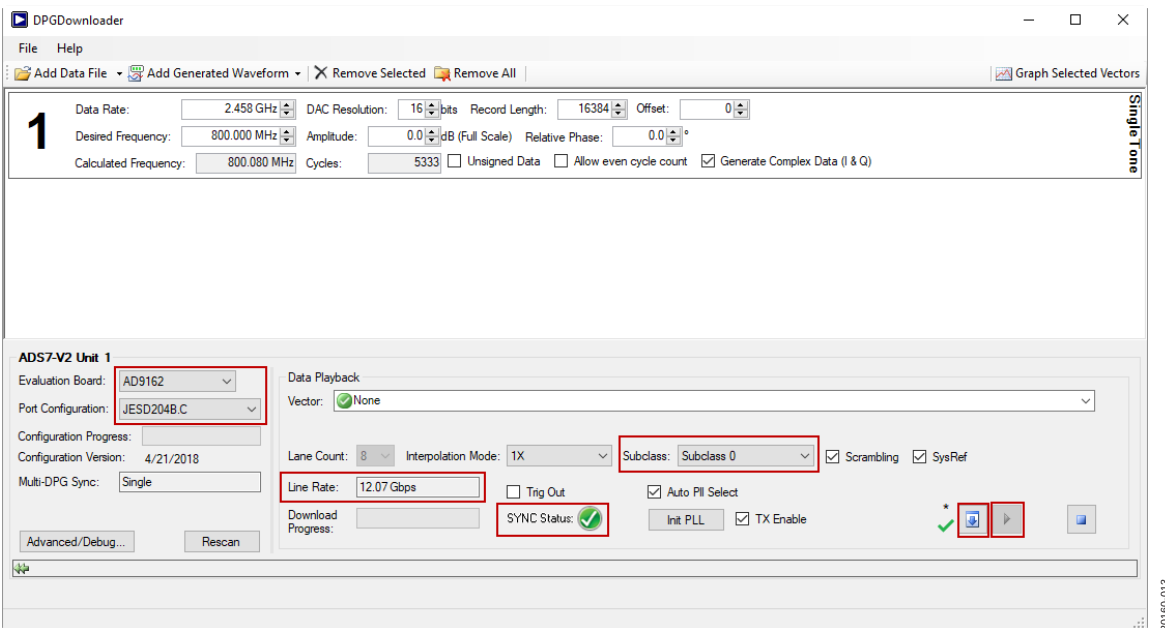
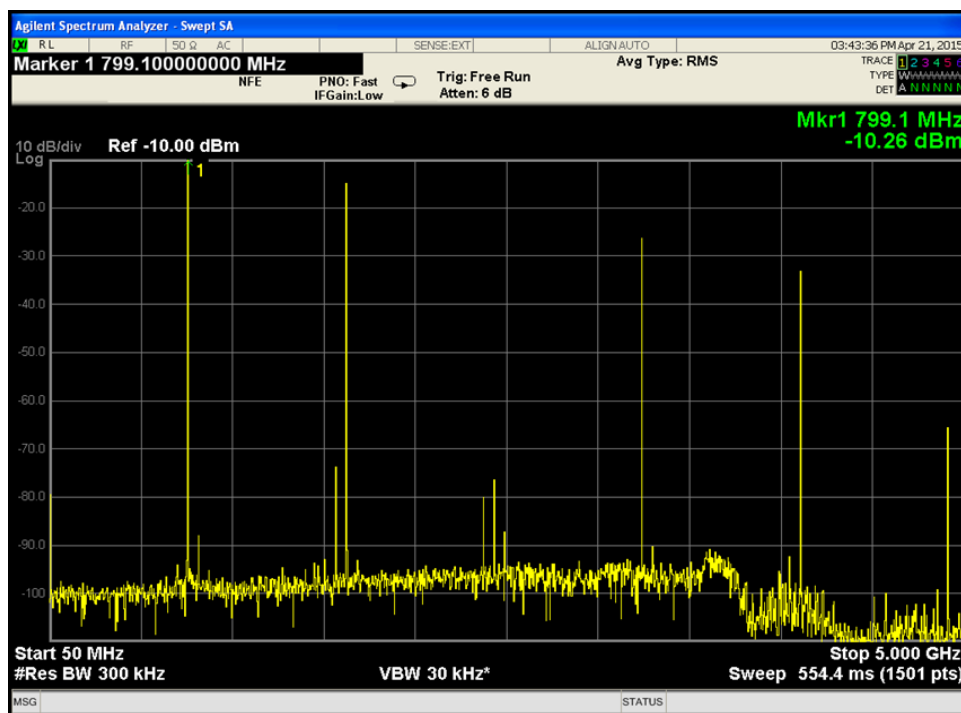

Figure 13. Download Single Tone and Play
Figure 14. Spectrum Analyzer Plot of DAC Output in JESD204B 8-Lane, 1× Mode, Showing Single Tone at 800 MHz
4. Report the line rate frequency from the AD9161, AD9162, AD9163, or AD9164 in the *DPGDownloader* as 12.07 Gbps, as shown in Figure 13. **SYNC Status** shows as a green check mark. An 800 MHz single tone appears on the spectrum analyzer, as shown in Figure 14.